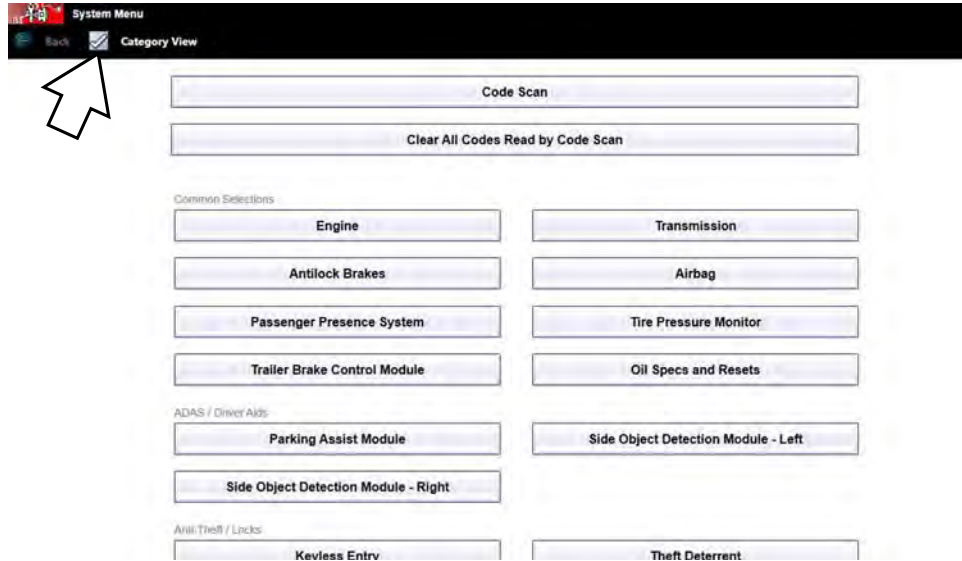
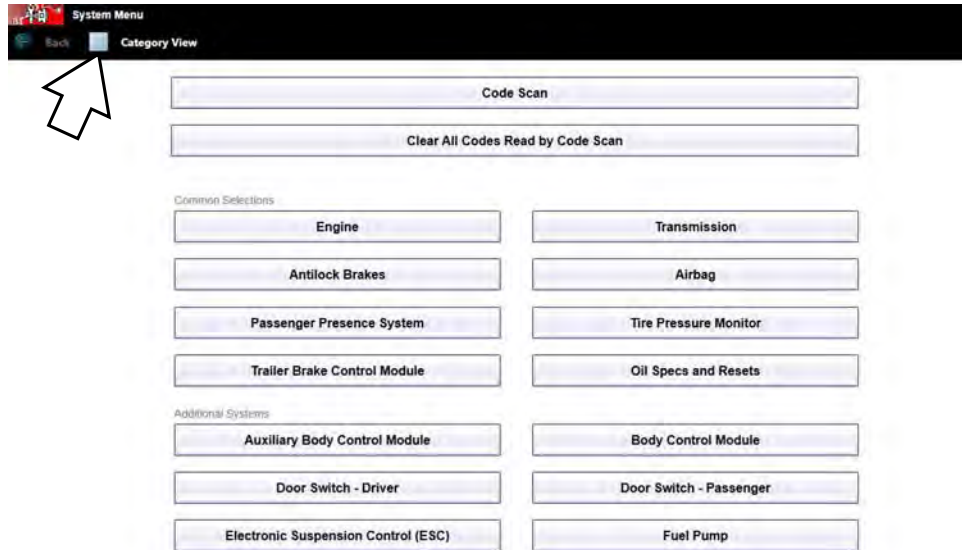

Figure 4-15 Systems menu "Category View" Selected
Figure 4-16 Systems menu "Category View" Not Selected
1. After the vehicle has been identified, a list of available systems for testing displays (Figure 4-15). Select a system to continue.
The System menu can be displayed in two views, by individual system categories or by common vehicle system categories. To change the view, select/deselect the **Category View** checkbox in the upper toolbar. Typical views are shown in (Figure 4-15 and Figure 4-16).